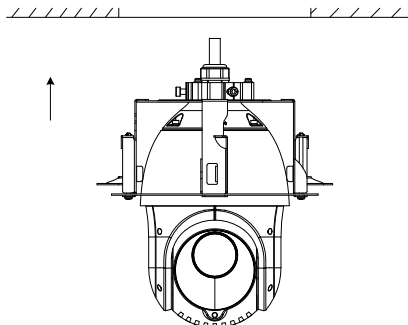

Figure 2-24 Push to the Mounting Hole
- 2) Push the speed dome according to the direction of the arrow in Figure 2-24 to the mounting hole.